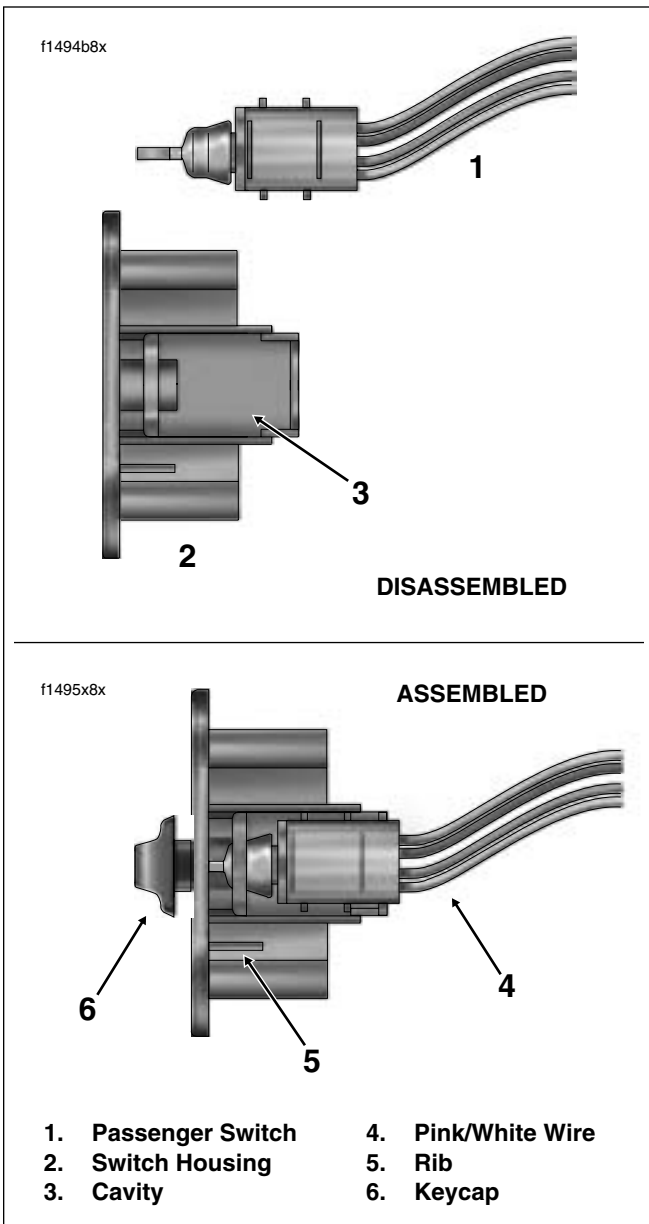

Figure 8-147. Install Switch in Housing
3. With the Pink/White wire at the bottom, place switch in cavity of switch housing. Bottom of the assembly is determined by location of rib on switch housing. See Figure 8-147.